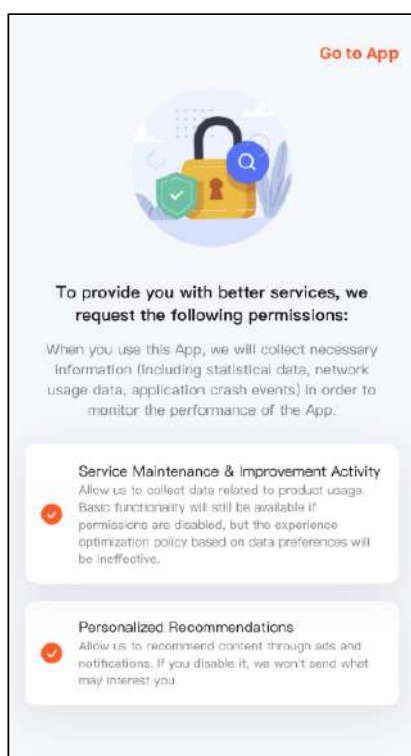
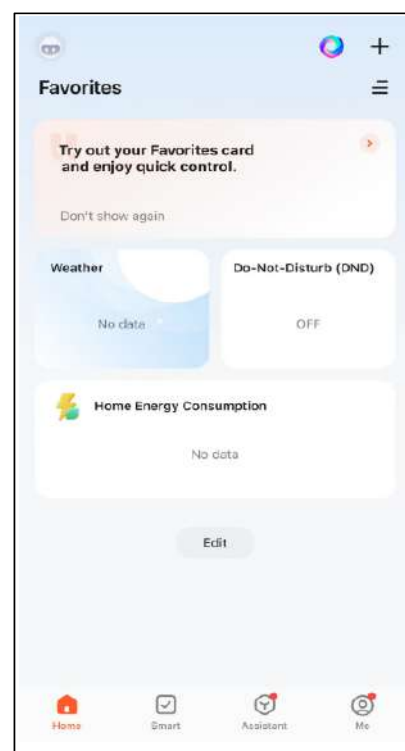

FIG.5
FIG.6
2. Touch “Go to App” (FIG. 5) to enter FIG.6.